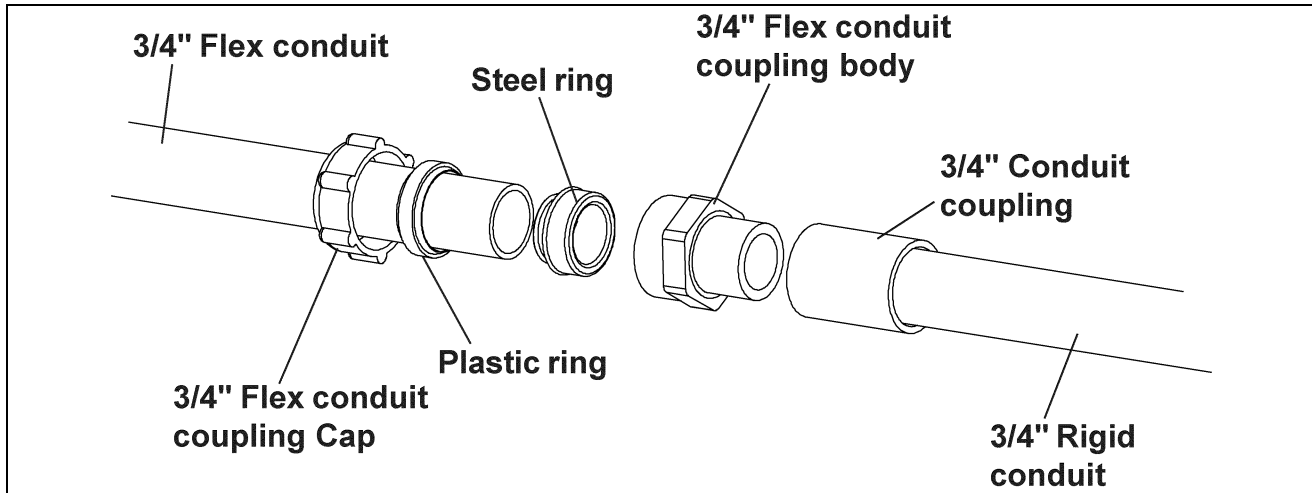

Figure 5AB
4. Thread a steel ring into the 3/4" flex conduit. (See Figure 5AB)
5. Thread the 3/4" flex conduit coupling cap onto the 3/4" flex conduit coupling body. (See Figure 5AB)
- D. Attach the 3/4" x 12" liquid-tight flex conduit to the other end of the rigid conduit using one (1) 3/4" conduit coupling and one (1) 3/4" liquid-tight flex conduit coupling. (See Figure 5AC)